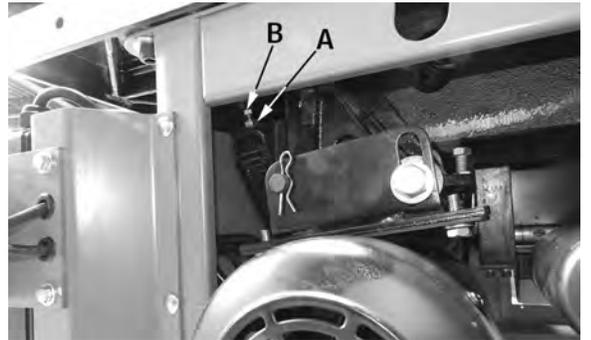

FIGURE 60
4. Loosen lock nut (A) Fig.60. Turn hex. bolt (B) in or out until the blade is perfectly set at a 90° angle. Once adjustment is done, retighten hex. nut.